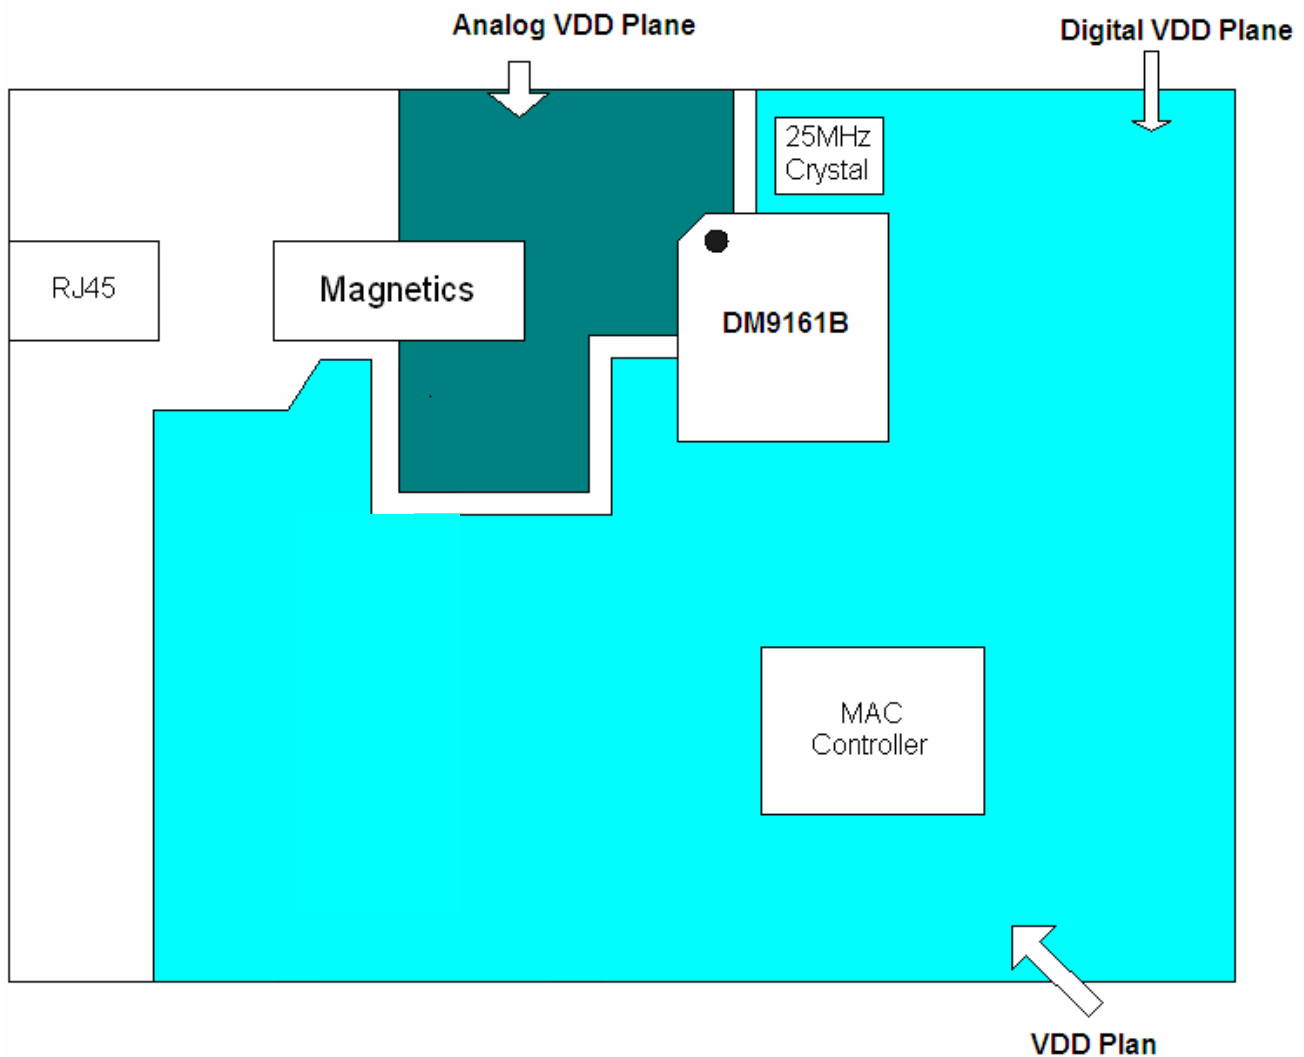

Figure 4
- The power planes should be approximately illustrated in Figure 4. The ferrite bead used should have an impedance 100Ω at 100MHz and at least 200mA. A suitable bead is the Panasonic surface mound bead, part number EXCCL4532U. A $10\mu\text{F}$, $0.1\mu\text{F}$ and $0.01\mu\text{F}$ bypass capacitors should be connected between VDD and GND at the device side of each of the ferrite bead.